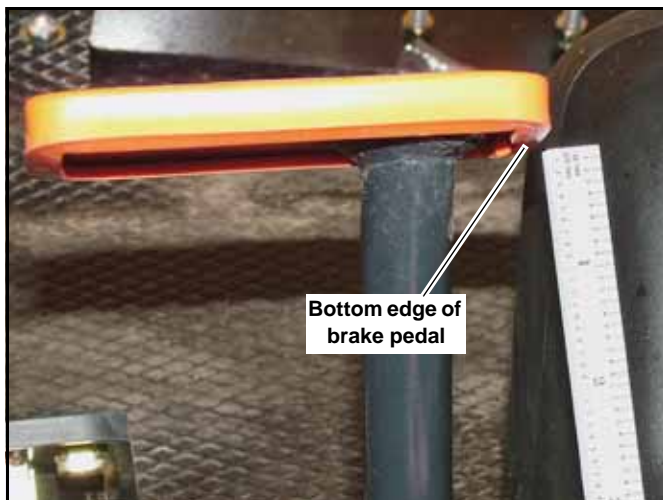
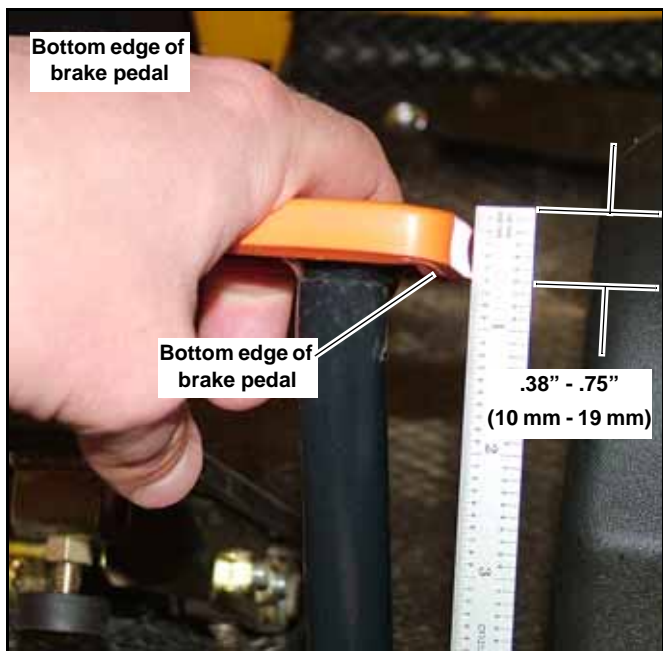

Figure 4-35
Figure 4-36
- a. There is less than 0.38 in. (10mm) or more than 0.75 in. (19mm) of free travel in the brake pedal (Figure 4-35 & Figure 4-36), or,
2. Check the free travel of the brake pedal (Figure 4-35 & Figure 4-36). This is determined by the distance the brake pedal travels from its rear most position pushing forward on the pedal until you feel the brakes beginning to engage. Measure this distance - if it is more than 0.75 in. (19mm) or less than 0.38 in. (10mm), the brakes must be adjusted.